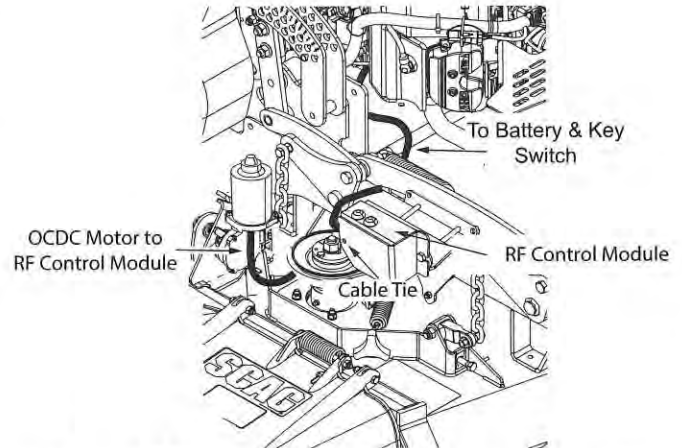

Figure 3-31. E-OCDC Wire Harness Installation
3. Using a cable tie, retain the wires from the RF control module to the hole in the RF control module guard. See Figure 3-31.
4. Locate the "A" terminal on the key switch and install the green wire from the E-OCDC harness to the key switch. See Figure 3-31.
5. Plug the EOCD main wire harness into the RF control module. See Figure 3-31. DO NOT plug the E-OCDC motor harness into the RF control module at this time, this may cause movement of the linkages.